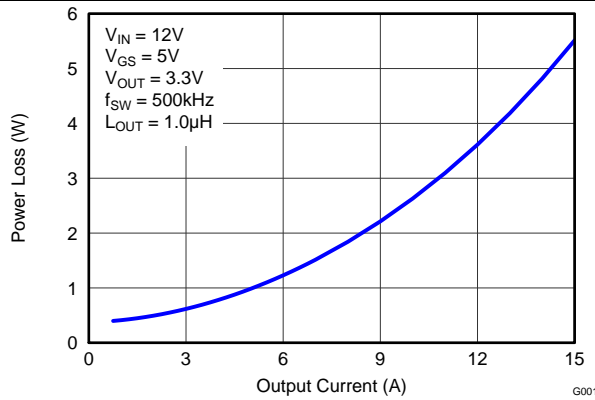
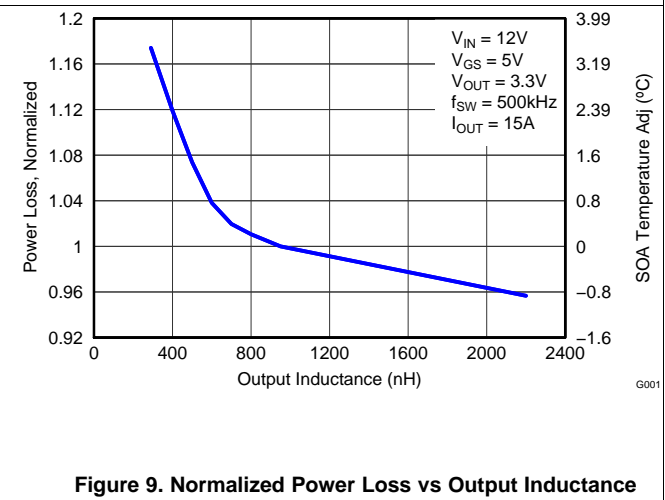
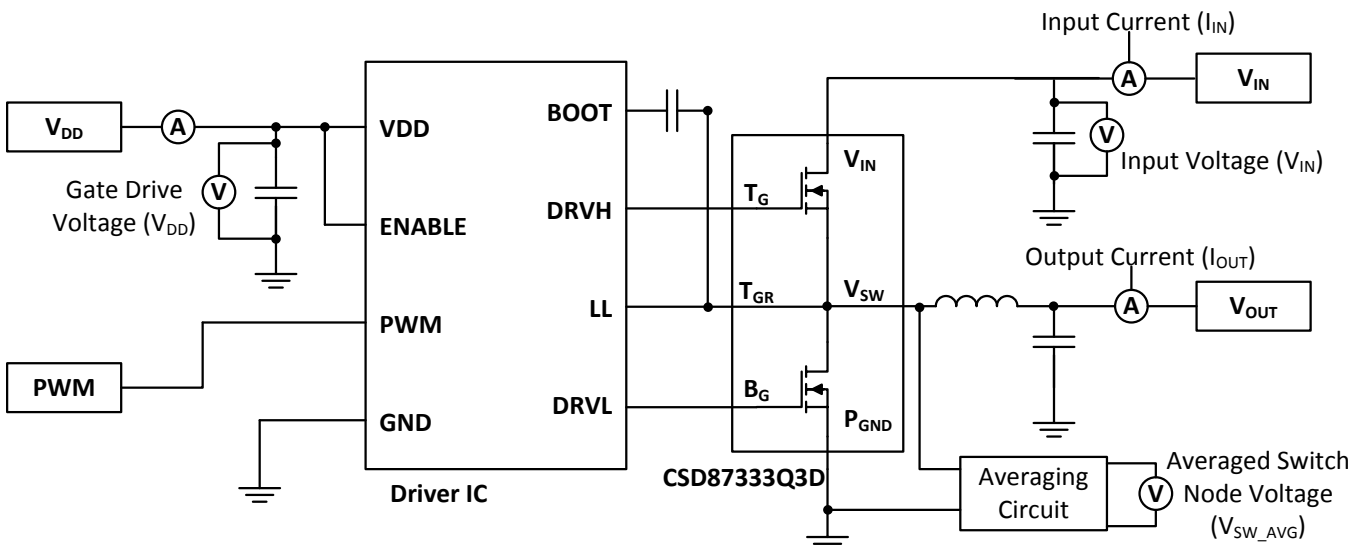

Figure 1. Power Loss vs Output Current
Figure 9. Normalized Power Loss vs Output Inductance
Figure 19. Typical Application
The typical power block system characteristic curves (Figure 1 through Figure 9) are based on measurements made on a PCB design with dimensions of 4 in (W) × 3.5 in (L) × 0.062 in (H) and 6 copper layers of 1-oz copper thickness. See Applications for detailed explanation. $T_A = 125^\circ\text{C}$, unless stated otherwise.
MOSFET centric parameters such as $R_{DS(ON)}$ and Q_{gd} are needed to estimate the loss generated by the devices. In an effort to simplify the design process for engineers, Texas Instruments has provided measured power loss performance curves. Figure 1 plots the power loss of the CSD87333Q3D as a function of load current. This curve is measured by configuring and running the CSD87333Q3D as it would be in the final application (see Figure 19). The measured power loss is the CSD87333Q3D loss and consists of both input conversion loss and gate drive loss. Equation 1 is used to generate the power loss curve.
The power loss curve in Figure 1 is measured at the maximum recommended junction temperatures of 125°C under isothermal test conditions.
- Power loss at 10 A = 2.6 W (Figure 1)
- Normalized power loss for output inductor ≈ 1.03 (Figure 9)
- SOA adjustment for output inductor ≈ 0.8°C (Figure 9)